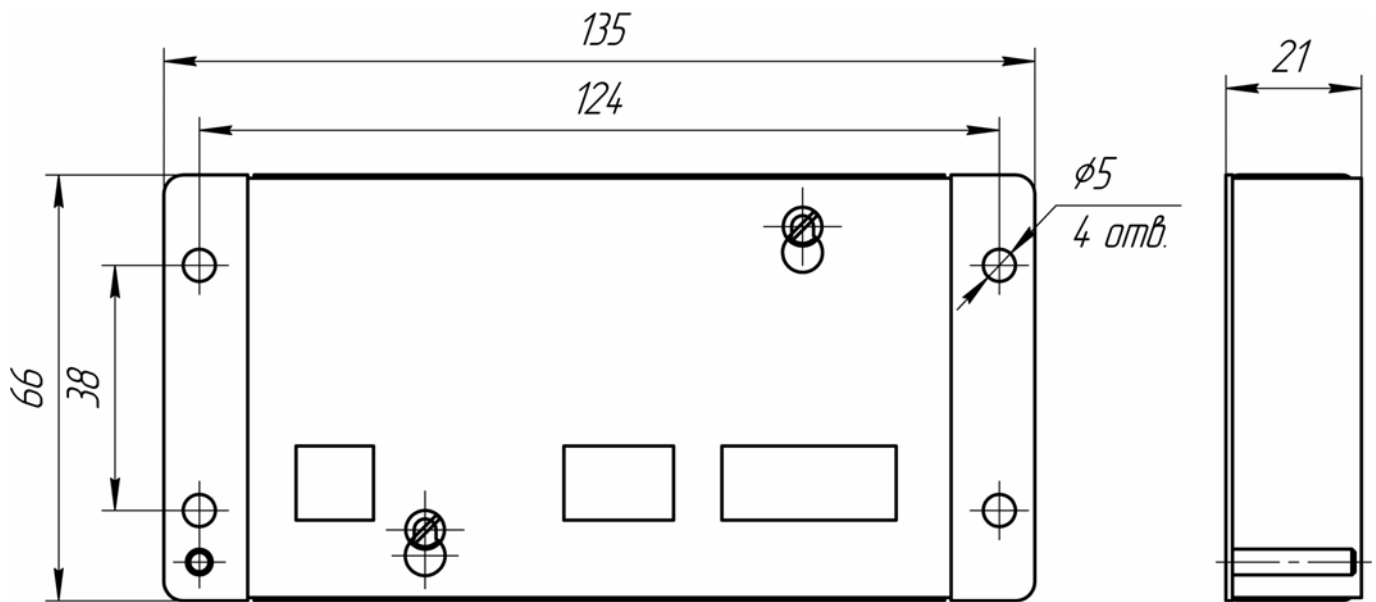

Fig. 1. Dimensional drawing.
- Choose place for device installation and prepare mounting holes in accordance with dimensional drawing (Fig. 1)